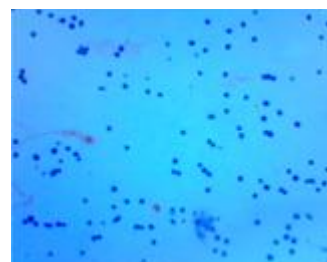

Figure 5: Example of trypan blue stained fixed cells.
- After fixation, the cells/nuclei are permeabilized and should appear dead with viability stains. We recommend Trypan Blue for all counting up until the bead binding step. After the beads are bound, we recommend using fluorescent staining such as Acridine Orange/Propidium Iodide (AO/PI) or Acridine Orange/DAPI (AO/DAPI) (Figure 5).